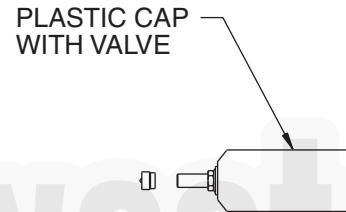

Fig. 97 — Distributor and Cap
1. Remove plastic end cap by using an electric heat gun or a torch (see Fig. 97).